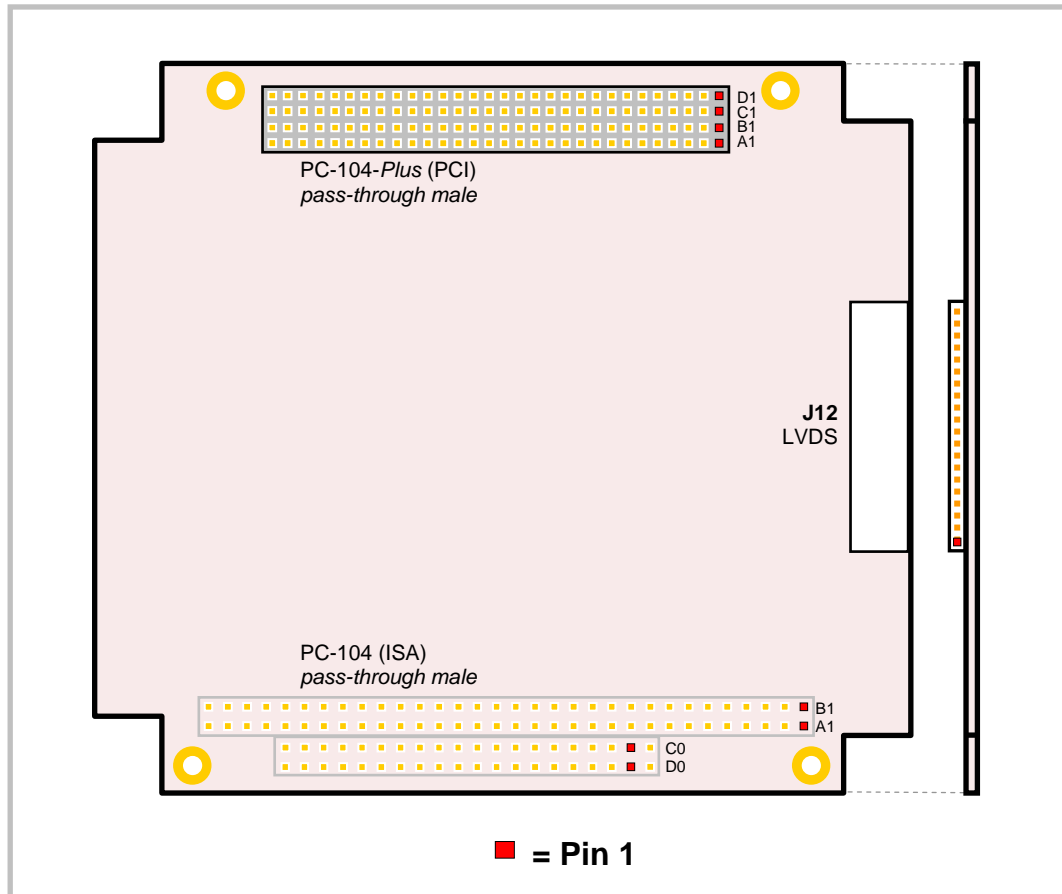

Figure 8. EPM-15 Connector Locations (Bottom)
1. The PCB Origin is the mounting hole to the lower left, as shown in Figures 8.